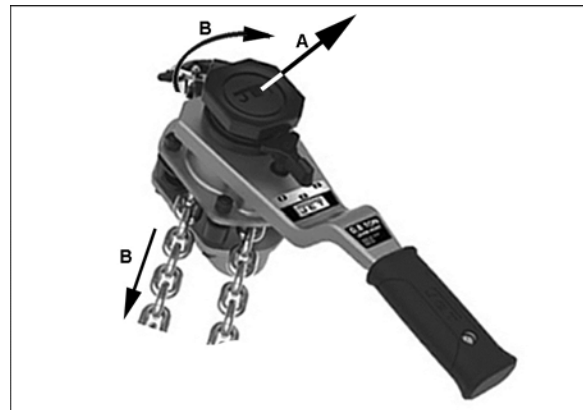

Figure 4
2. Place the selector switch on the handle in the center neutral position, and pull out on the handwheel (A, Figure 4). This will allow “free-
4. Rotate the handwheel clockwise while simultaneously pulling down on the load chain, (B, Figure 4). The handwheel will snap back into place, re-engaging the gear.